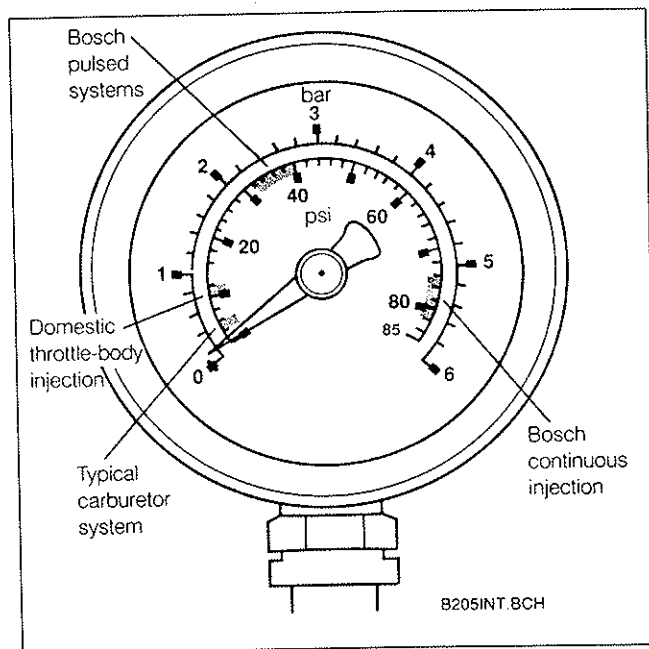

Fig. 1-3. Bosch fuel injection systems operate at high pressures.
- Fuel injection systems operate under pressures much higher than other fuel systems. See Fig. 1-3. Confine the fuel spray during any injector testing or opening of fuel lines to minimize the chance of a fire.